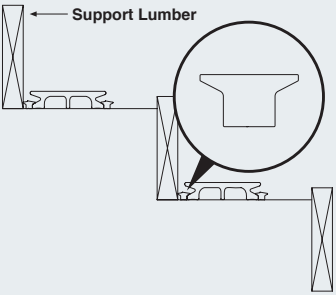

FIG.10c
- Install clips directly against support lumber. (REFER TO FIG.10c)
- Push deck board against first row of clips and install next row of clips. Use single #8 x 2" deck screw to toe screw deck board to middle riser. (REFER TO FIG.10c)